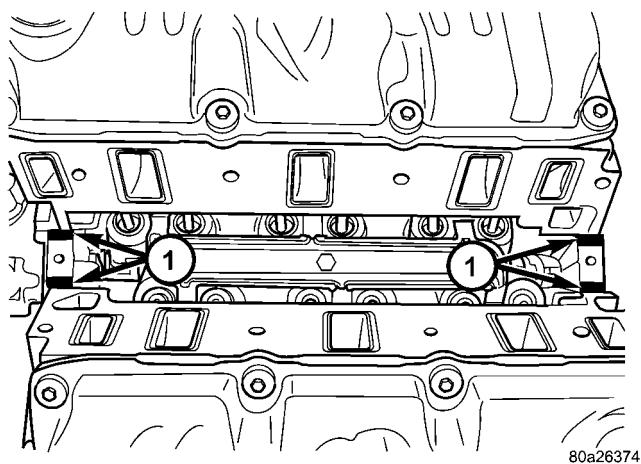

Fig. 123 Intake Manifold Gasket Sealing
(1) Place a bead (approximately 1/4 in. diameter) of Mopar® Engine RTV GEN II onto each of the **four** manifold to cylinder head gasket corners (Fig. 123).